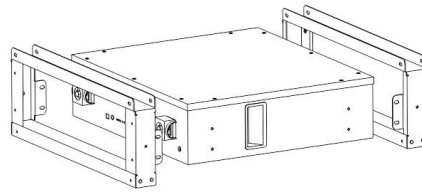
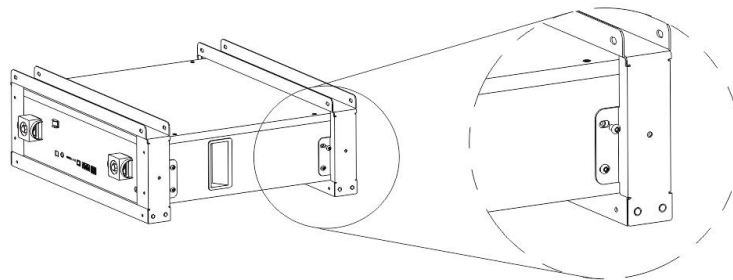

Figure 3-3
Figure 3-4
1. DL5.0C brackets The DL5.0C bracket is shown before installation as shown in Figure3-3.
2. Place the DL5.0C and brackets as shown in the figure3-3, and insert the DL5.0C into the brackets. Each bracket is connected to the module by four screws, two screws on one side. As shown in Figure3-4.